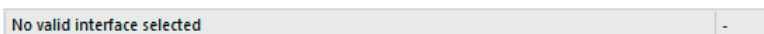

Fig. 6-17: Status bar: "No valid interface selected"
- ☞ If no interface is displayed in the status bar (Fig. 6-17), continue with chapter 6.5.3.3 "Selecting a communication interface".
The XCP-Gateway was designed as a bus interface, which is why it is listed in the **Interface** dialog. If no XCP-Gateway is displayed in the status bar after the program has started, the message **No valid interface selected** will instead be shown (Fig. 6-17). This means that a suitable communication interface still has to be selected.